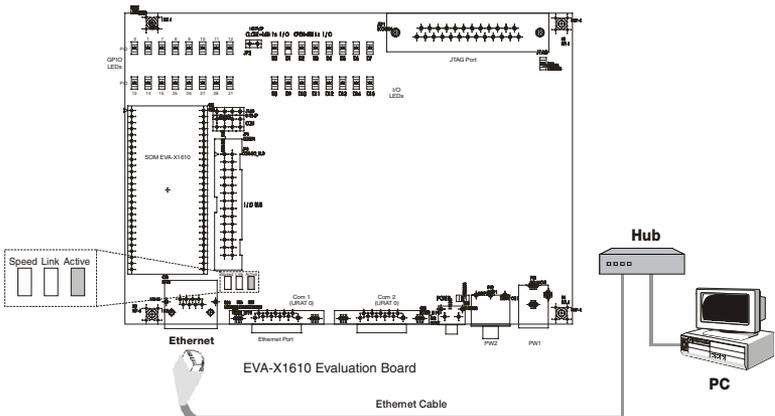

Fig 6-2: Connection between EVA-X1610C evaluation board and PC via hub
- Connection between EVA-X1610 evaluation board and PC via two Ethernet cables and a hub (Fig 6-2).